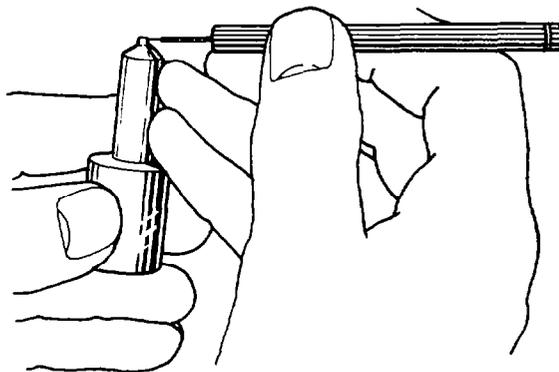

Fig. 127 — Cleaning Nozzle Body Fuel Discharge Holes
- Probe all nozzle spray holes using needle orifice cleaner TSE 7729 see fig. 127.